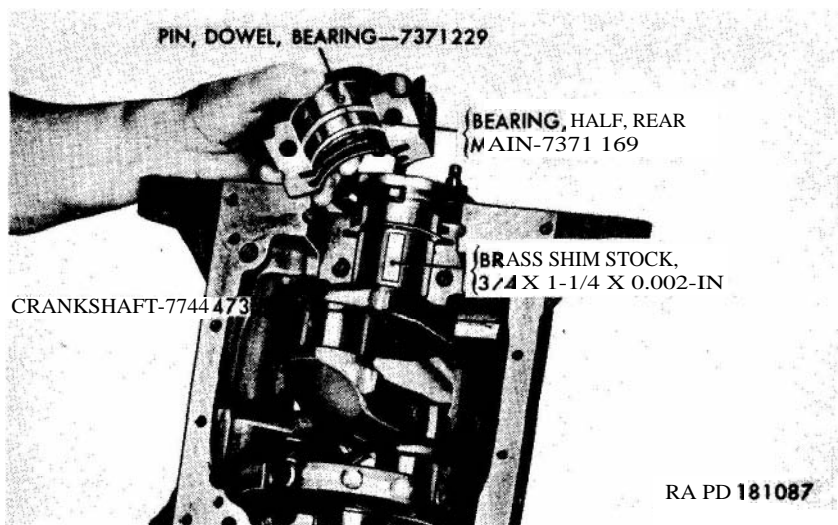

Figure 76. Checking rear main bearing for underSize.
- (2) *Check for excessive main bearing clearance.* If the crankshaft turns freely, remove the bearing cap with its half bearing. Cut a piece of brass shim stock $\frac{3}{4}$ -inch wide, $1\frac{1}{4}$ -inches long, and 0.002 thick (fig. 76).